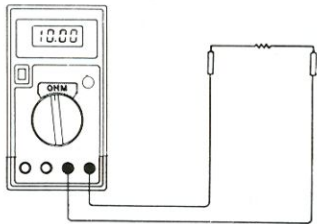

Fig. 5-5 Resistance measurement
2. Set the FUNCTION switch to the Ω range to be used and connect the test leads across the resistance under measurement see Fig. 5-5.